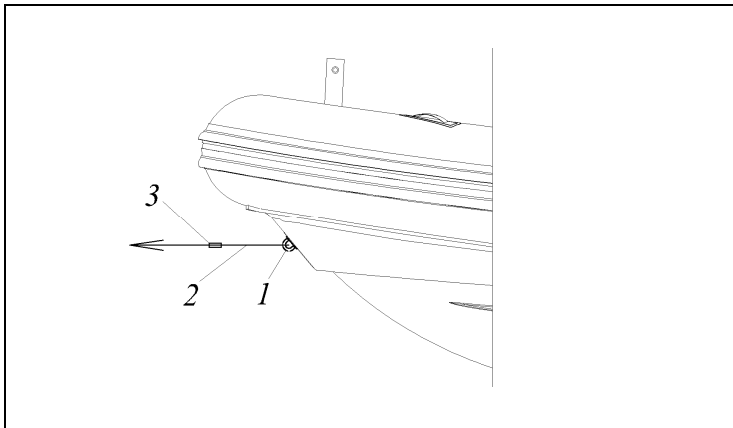

Fig.10
There is U-bolt in the bow ((1) Fig.10) of your boat for towing. On some boat modifications, two U-bolts can be installed. Use both U-bolts at the same time to tow your boat. In towing rope (2) should be a hook (3) to quickly disconnect your boat from the tugboat. This rope is not supplied by the manufacturer. You must purchase it yourself from BRIG dealers. U-bolt ((1) Fig.10) for towing is designed for a maximum horizontal load of 19.1kN.